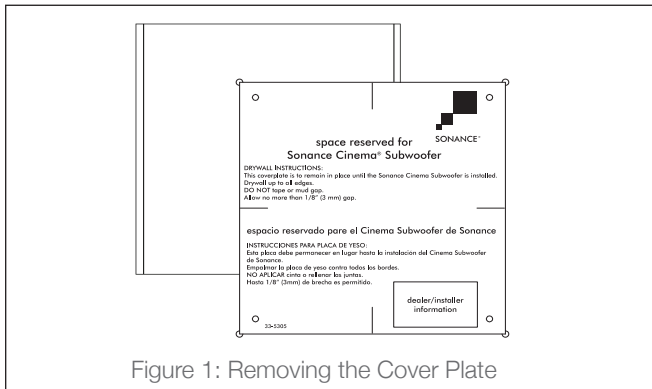

Figure 1: Removing the Cover Plate
1. Remove the four screws that attach the cover plate to the enclosure (see Figure 1).